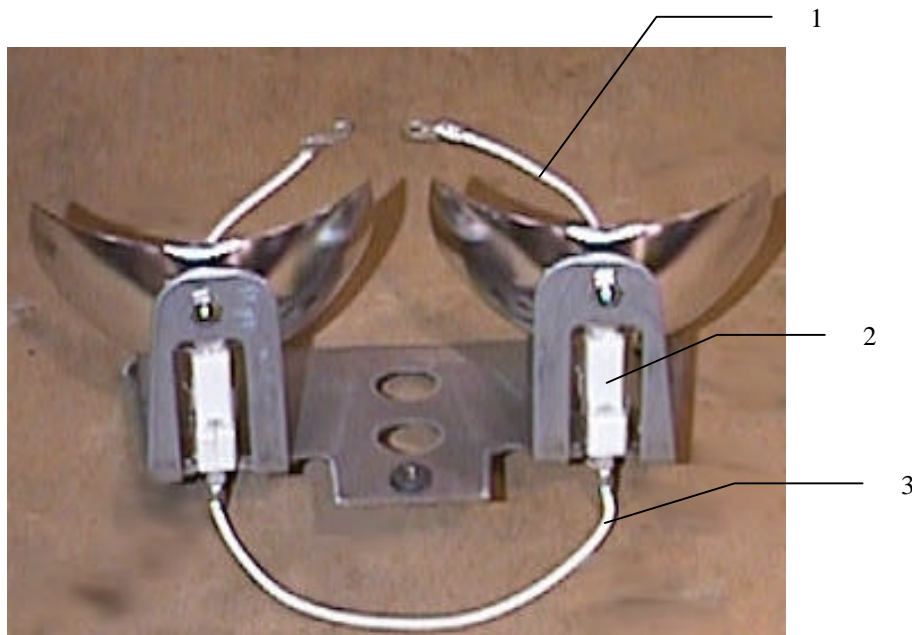

Figure 15. Optical Assembly (Back View)
2. See Figure 15. Disconnect one terminal of one wire assembly #1 (3) on the optical assembly and connect to the insulation tester. Second lead from the tester should be connected to the inner cover assembly.
2. See Figure 15. Pull wire assembly #1 (3) from the lamp socket.
4. See Figure 15. Connect wire assembly #2 (1) and wire assembly #1 (3).